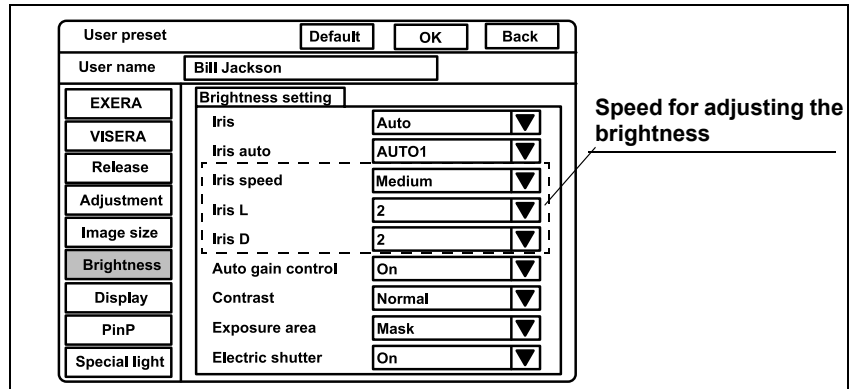

Figure 9.26
1. Click “▼” of “Iris speed” (see Figure 9.26). The iris speeds appear in the pull-down menu.
3. Click “ ▼ ” of “Iris L (Iris D)” (see Figure 9.26). The fine-tuning speeds appear in the pull-down menu.